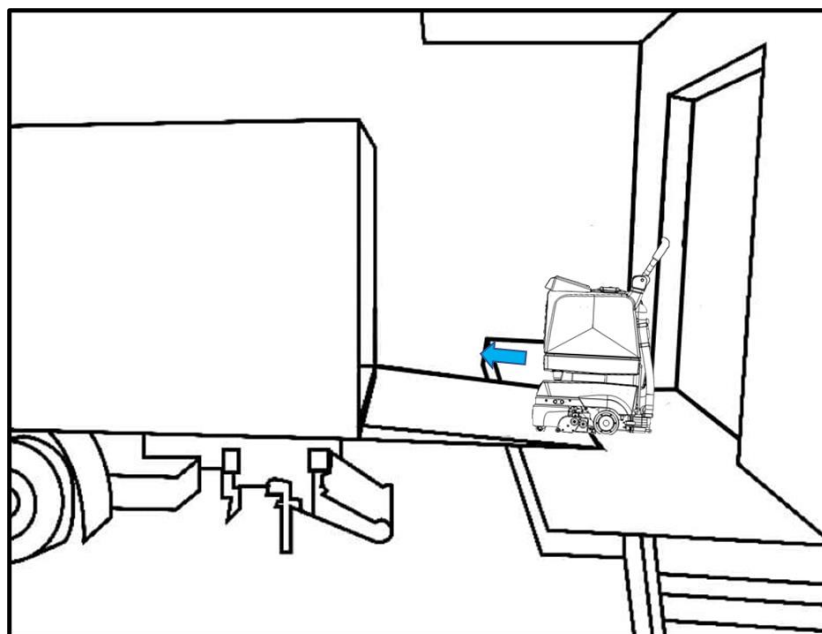

Fig. 4
- When moving the R3SCRUB onto a hydraulic ramp of a truck, reverse in (Fig. 4).